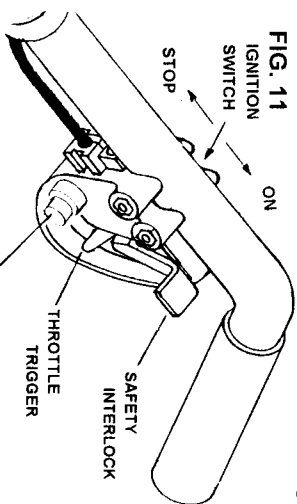
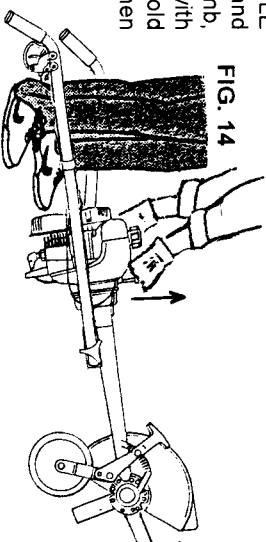

FIG. 11
FIG. 14
1. Place lawn edger on ground in horizontal position (see Fig. 14). Be sure the ignition switch is "ON". Pull switch toward operator to turn ON. Switch located on right side of trigger. See Fig. 11
2. Set trigger throttle to 1/2 THROTTLE LOCK by placing hand on handle grip and pushing down safety interlock with thumb, and pulling up and holding trigger with finger (Fig. 11). Then move thumb to hold in 1/2 throttle button, release trigger, then release 1/2 throttle button. Trigger throttle is then engaged at half speed for starting (only).
Make sure you have a firm footing. Hold down motor with left hand and with right hand pull the starter grip slowly until you feel it engage - and then give it a fast pull (Fig. 14). Do not pull out starter rope more than 26" (65cm) - it might break.
7. HOT OR WARM START: (Engine has already been started and warmed up). Switch ignition "ON". Set ½ THROTTLE LOCK (Fig. 11). Pull starter until motor runs and let it run for a few seconds before releasing ½ THROTTLE LOCK. This allows cooler fuel to enter the carburettor. Allow throttle trigger to slowly pull back to idle.
8. Throttle trigger (engine accelerator control) is operated by pushing down interlock with thumb and pulling on trigger. Fig. 11.